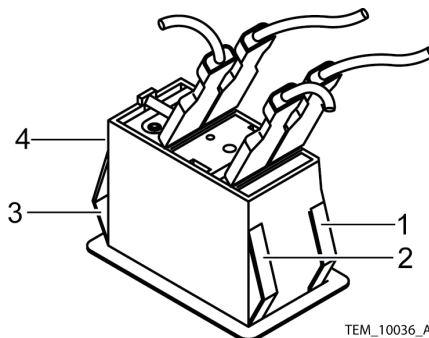

Figure 30. Power Switch Clips and Wires
26. Slide the power switch through its hole in the front of the front cover assembly until the four clips on the power switch click into place. Ensure that the "0", marked on the front of the power switch, is towards the bottom of the front cover assembly. See Figure 30.